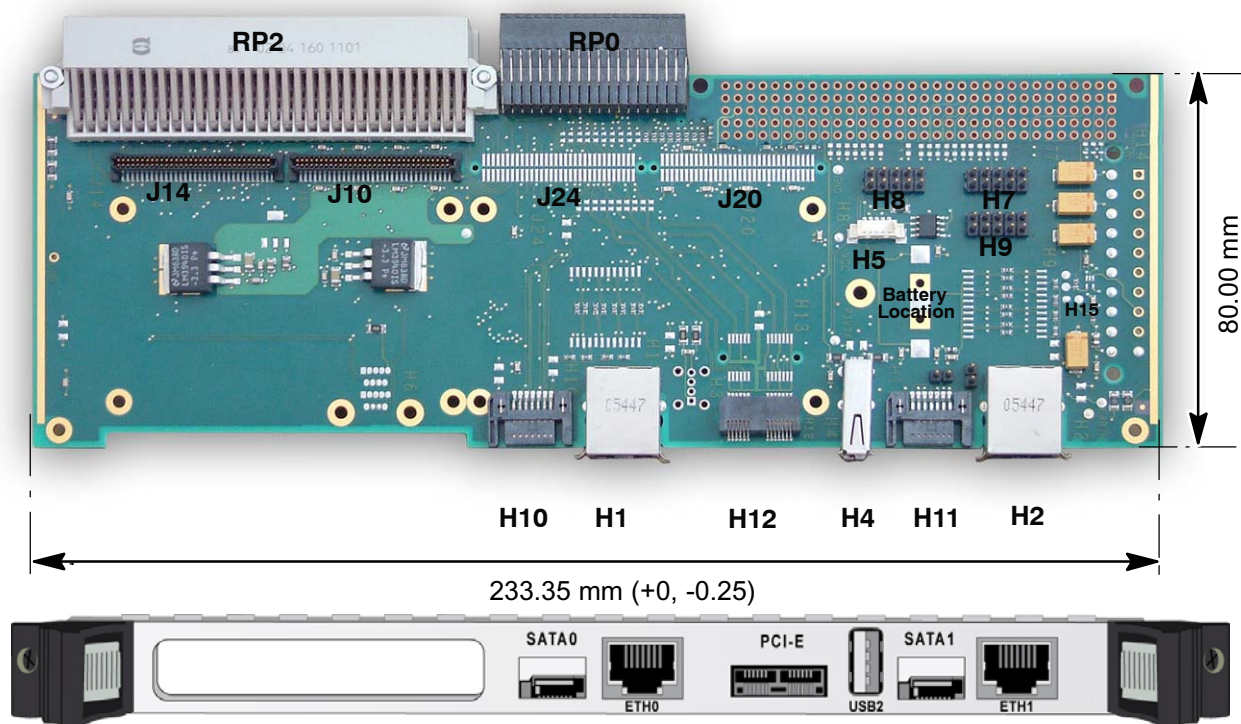

Figure 59: PBV36-P0-VM6-00 Module Overview
- Two 10/100/1000BASE-T Ethernet interface, H1 and H2 connectors on Figure 59
- One USB connector, H4 on Figure 59
- One SMB connector, H5 on Figure 59
- Two Serial lines ports available on two HE10 connectors (H7, H8 on Figure 59)
- Three GPIOs signals available through an HE10 connector, H9 connector on Figure 59
- Two Serial ATA connectors, H10 and H11 connector on Figure 59
- One PCI Express connector, H12 connector on Figure 59